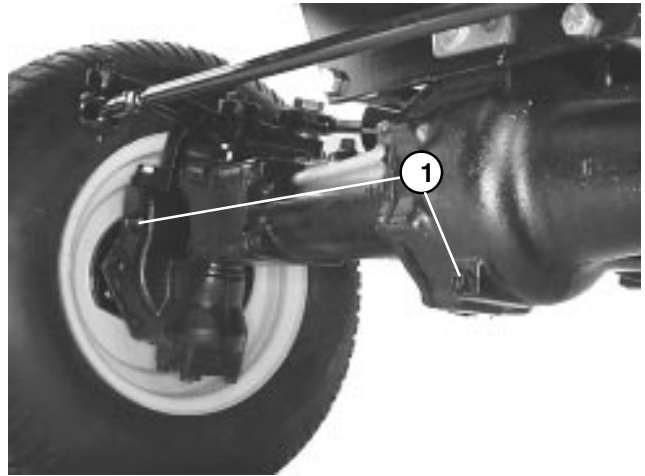

Figure 54
CHANGING REAR AXLE LUBRICANT (Model 30455 only) (Fig. 54)
2. Clean area around the (3) drain plugs, (1) on each end and (1) in the center (Fig. 54).